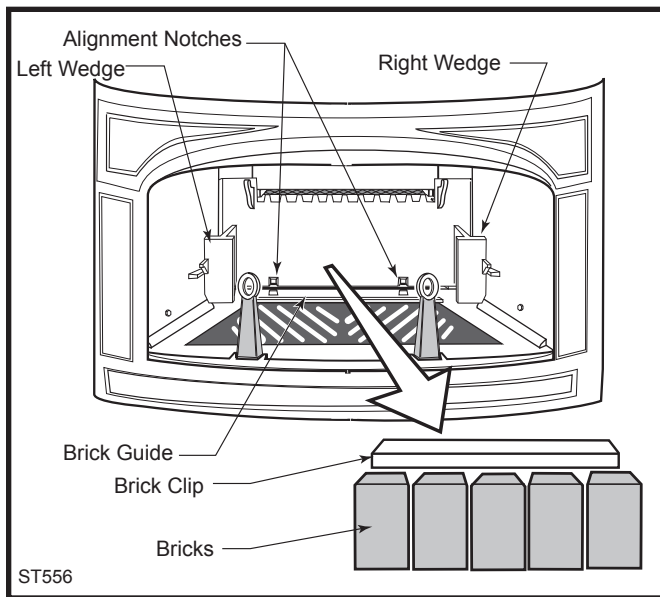

Fig. 43 Remove the bricks and the brick retainer.
1. Remove the firebricks. Lift off the steel clip and remove the bricks individually. (Fig. 43)
7. Replace the fireback, the five bricks and their clip, the left and right wedges, and the throat. When you install the lower fireback, be sure to align the two slight recesses in its bottom forward edge behind the mating tabs on the firebox floor. (Fig. 43) When you install the wedges, be sure to place their rear vertical edges against the outermost left and right edges of the lower fireback, to ensure a good seal between the lower fireback and the stove's outer back. Tap them downward to seat them snugly, but not overly tight.